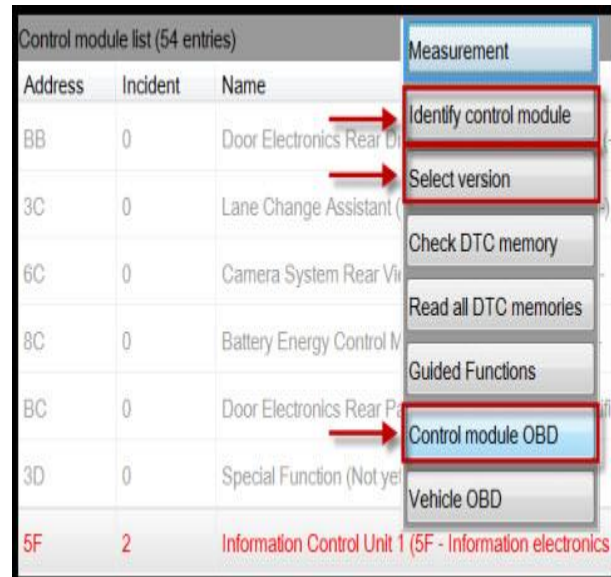

Figure 3. ODIS Options for 5F.
2. Right-click 5F*. Choose "Identify Control Module". Next, right-click 5F again and choose "Select version". Then, right-click 5F again and choose "Control module OBD", then select "Code" (Figure 3).